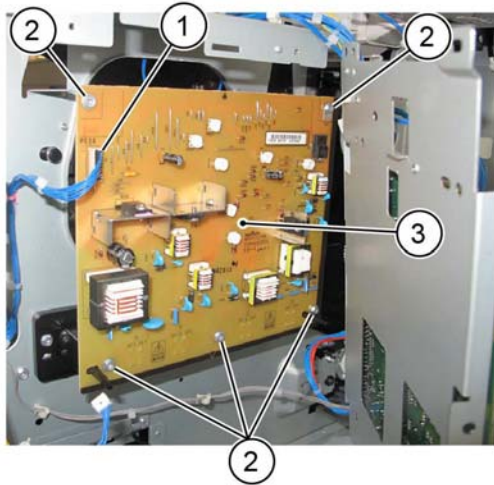

Figure 4 HVPS Removal
7. Remove the HVPS, Figure 4:
- a. Disconnect the connector (1).
- b. Remove five screws (2).
- c. Remove the HVPS (3).